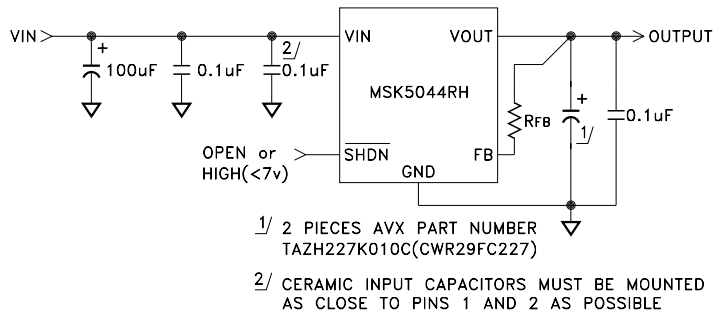

FIGURE 1
- ① Unless otherwise specified VIN = 5.0V, V_{OUT} = 2.5V and I_{OUT} = 1.0A. See Figure 1 for typical application circuit.
- ② Guaranteed by design but not tested. Typical parameters are representative of actual device performance but are for reference only.
- ③ Verified during line regulation test.
- ④ Industrial grade devices shall be tested to subgroup 1 and 4 unless otherwise specified.
- ⑤ Military grade devices ("H" Suffix) shall be 100% tested to subgroups 1,2,3 and 4.
- ⑥ Subgroup 5 & 6 testing available on request.
- ⑦ Subgroup 1,4 TA = TC = +25°C
The output voltage of the MSK5044RH is set with a single resistor, see Figure 1 (Typical Application Circuit). Select the value of RFB using the formulas below.